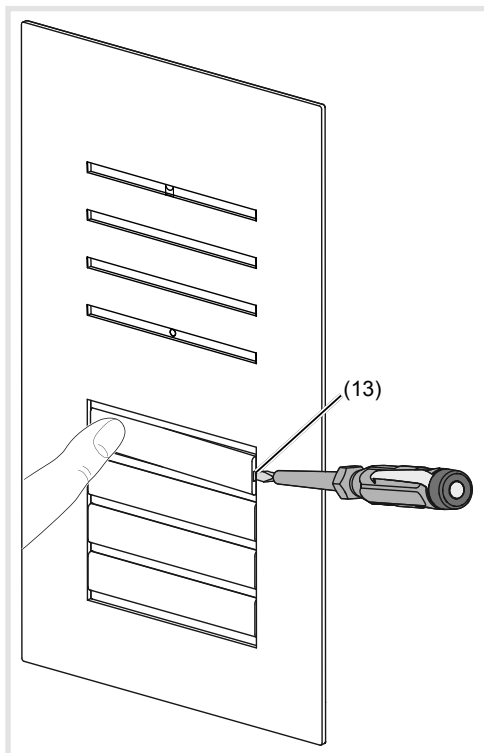

Figure 3: name plate change
- Position the screwdriver in the lever opening (13) and release the interlock (Figure 3).